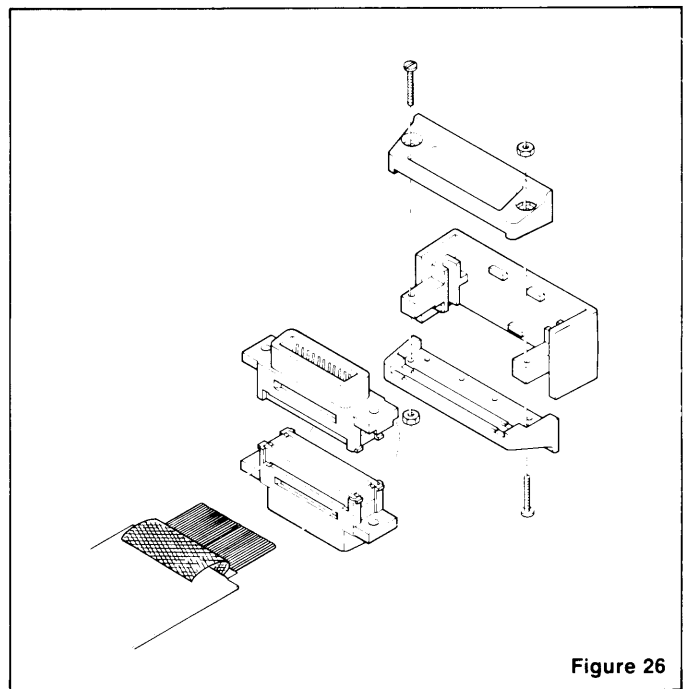

Figure 26
11. Position the junction shell body, cable clamps and hardware with the harness sub-assembly, and secure with the hardware provided using a $\frac{3}{16}$ " flat tipped screwdriver (Figure 26).